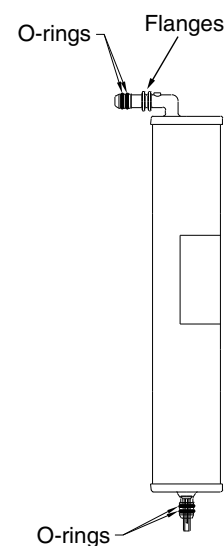

Figure 9-2. Installation
7. Press the upper end cap into position 2 until it bottoms out. Refer to Fig. 9-2.